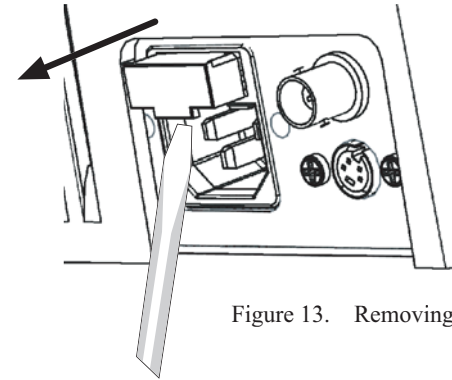

Figure 13. Removing fuse holder
- b. Use a standard screwdriver to pry the fuse holder free from the back of the unit as shown in Figure13.